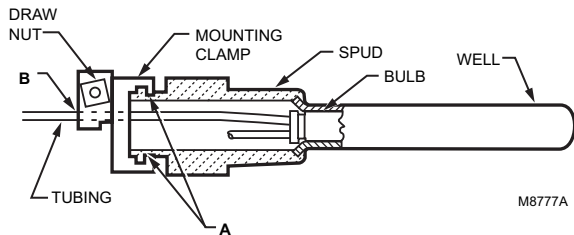
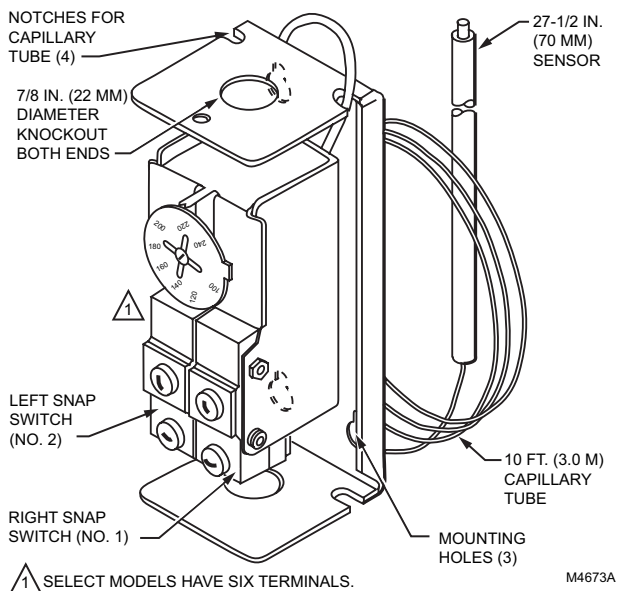
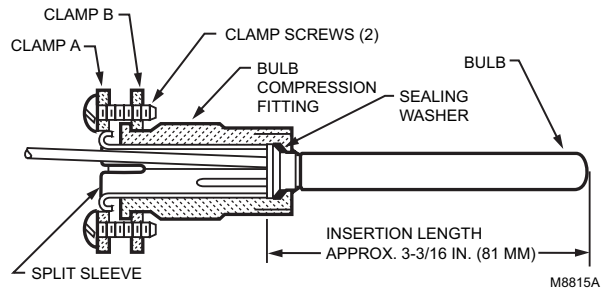

Fig. 8. Immersion well fitting.
Fig. 9. Internal view of L4008L or L6008G.
Fig. 10. Bulb compression fitting. Use with L4006A,B; L6008A.
The remote temperature-sensing bulb can either be installed in an immersion well (See Fig. 8) that extends into the boiler or tank, or it can be directly immersed in the controlled medium (See Fig. 9). For installations that do not use a well, secure the remote bulb with a bulb compression fitting (See Fig. 10), or capillary compression fitting. (See Fig. 11).
Order well, well adapter, bulb compression fitting or capillary compression fitting separately. See form no. 68-0040, Wells and Fittings for Temperature Controllers. If used, well must snugly fit sensing bulb for the best thermal response. Insert bulb until it rests against the bottom of the well. Hold it there while tightening the tubing clamp. (See Fig. 8).
3. Attach the retainer clamp to the end of the well spud. Loosen the draw nut and spread the jaws of the clamp with the screwdriver if necessary. (See Fig. 8).
4. With the retainer clamp attached to the well spud (be sure the jaws of the clamp hook over the ridge at the end of the spud, as shown at points A in Fig. 8), adjust the tubing to fit through the retainer clamp groove, as shown at point B in Fig. 8.
4. Slide the split sleeve into the fitting. (See Fig. 10).